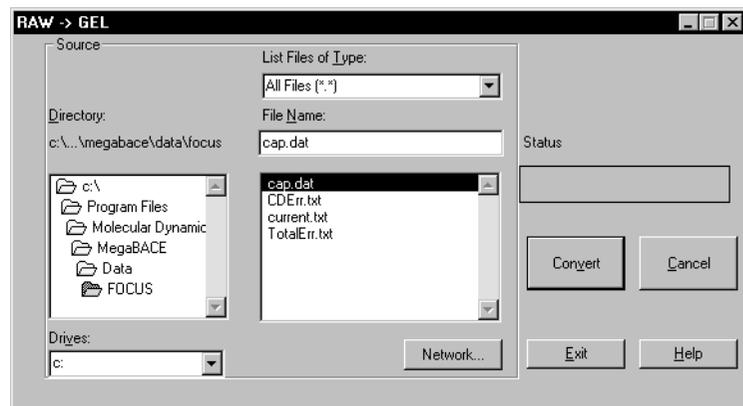

Figure 4-15. The Raw-to-Gel window for converting a .dat file to a .gel file.
- In the MegaBACE folder on the desktop, double-click the **Raw-to-Gel Conversion** icon. The Raw-to-Gel window opens and displays a list of folders (figure 4-15).